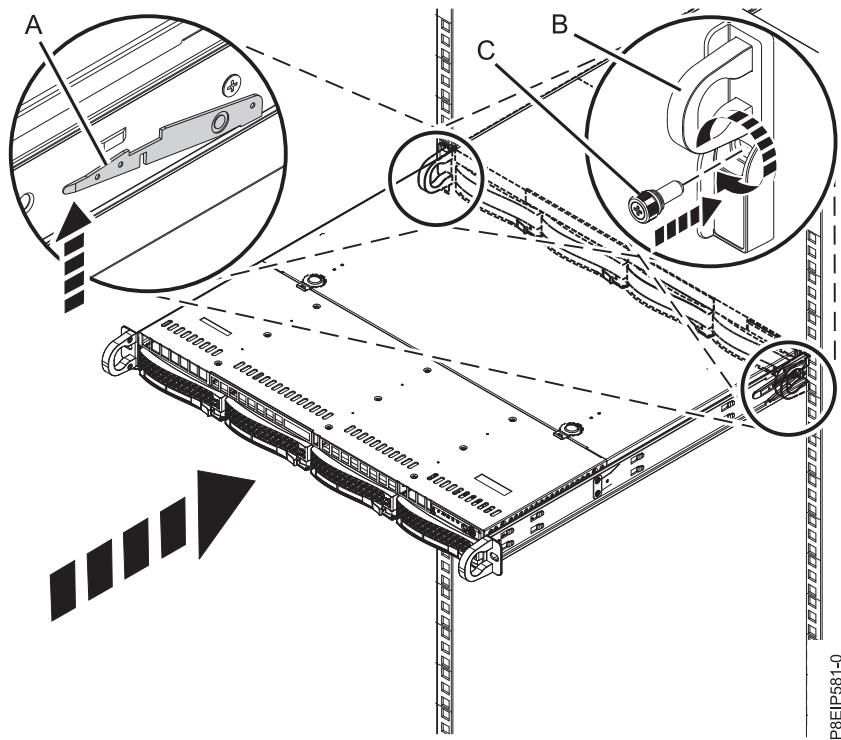

Figure 85. Placing the system into the operating position
5. Release the rail safety latches (**A**), as shown in Figure 85 on page 85, then push the system fully into the rack. The safety latches work in opposite directions; the latch on one side moves up while the latch on the other side moves down.